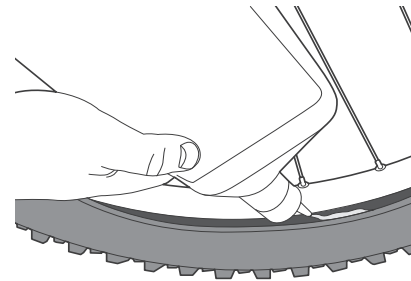

Figure 20. Pour sealant into the open section of tire.
3. Pour the sealant into the open section of tire (Figure 20). See the sealant container for the recommended amount.